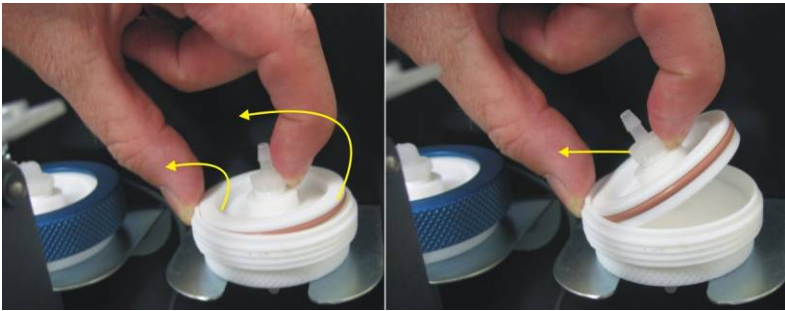

Figure 54 – Removing the Plunger
4. Remove the filter plunger from the casing, place finger on tubing connector and pull to the side (refer to Figure 54).